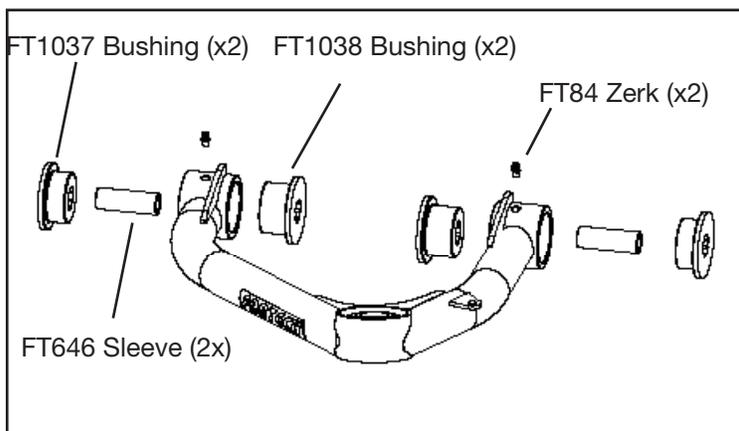

FIGURE 2 - STEP 5
5. Locate the new Fabtech control arms, two (FT1037) bushings, two (FT1038) bushings, two (FT84) grease zerks, and two (FT646) sleeves. Install the components into the new control arms. **SEE FIGURE 2**